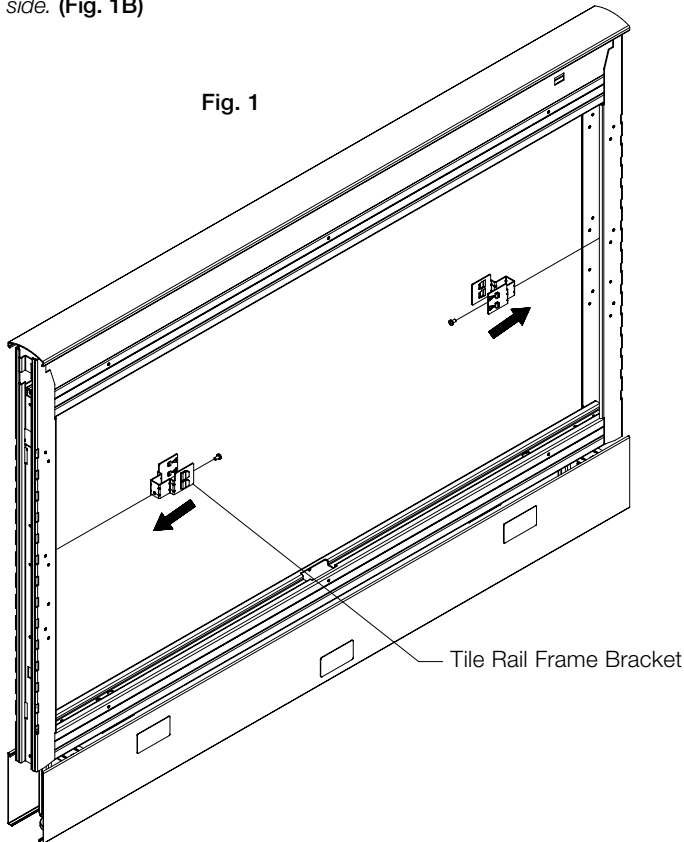

Fig. 1
1. Attach 2 tile rail frame brackets to panel frame using 1 #10-24 x 3/8" thread forming screws on each. (Fig. 1)